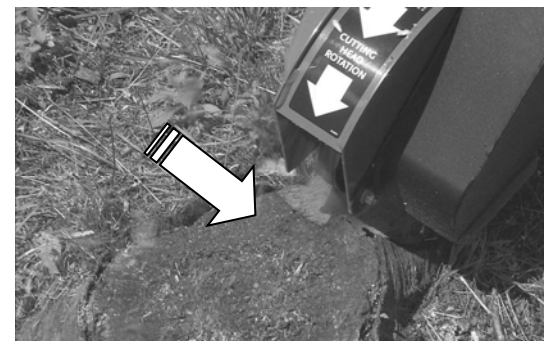

Figure 40
6. Lower the Cutter Head approximately 1/2" to 1" into the front-top corner of the stump and slowly swing the Cutter Head to the left into the stump by pushing on the right hand handlebar (**Figure 40**). When you are finished with the first pass through the Stump, swing the Cutter Head back to the starting position on the right side. Lower the Cutter Head approximately 1/2" to 1" and slowly swing the Cutter Head to the left through the Stump. Continue this process until you have removed the front portion of the stump to ground level.